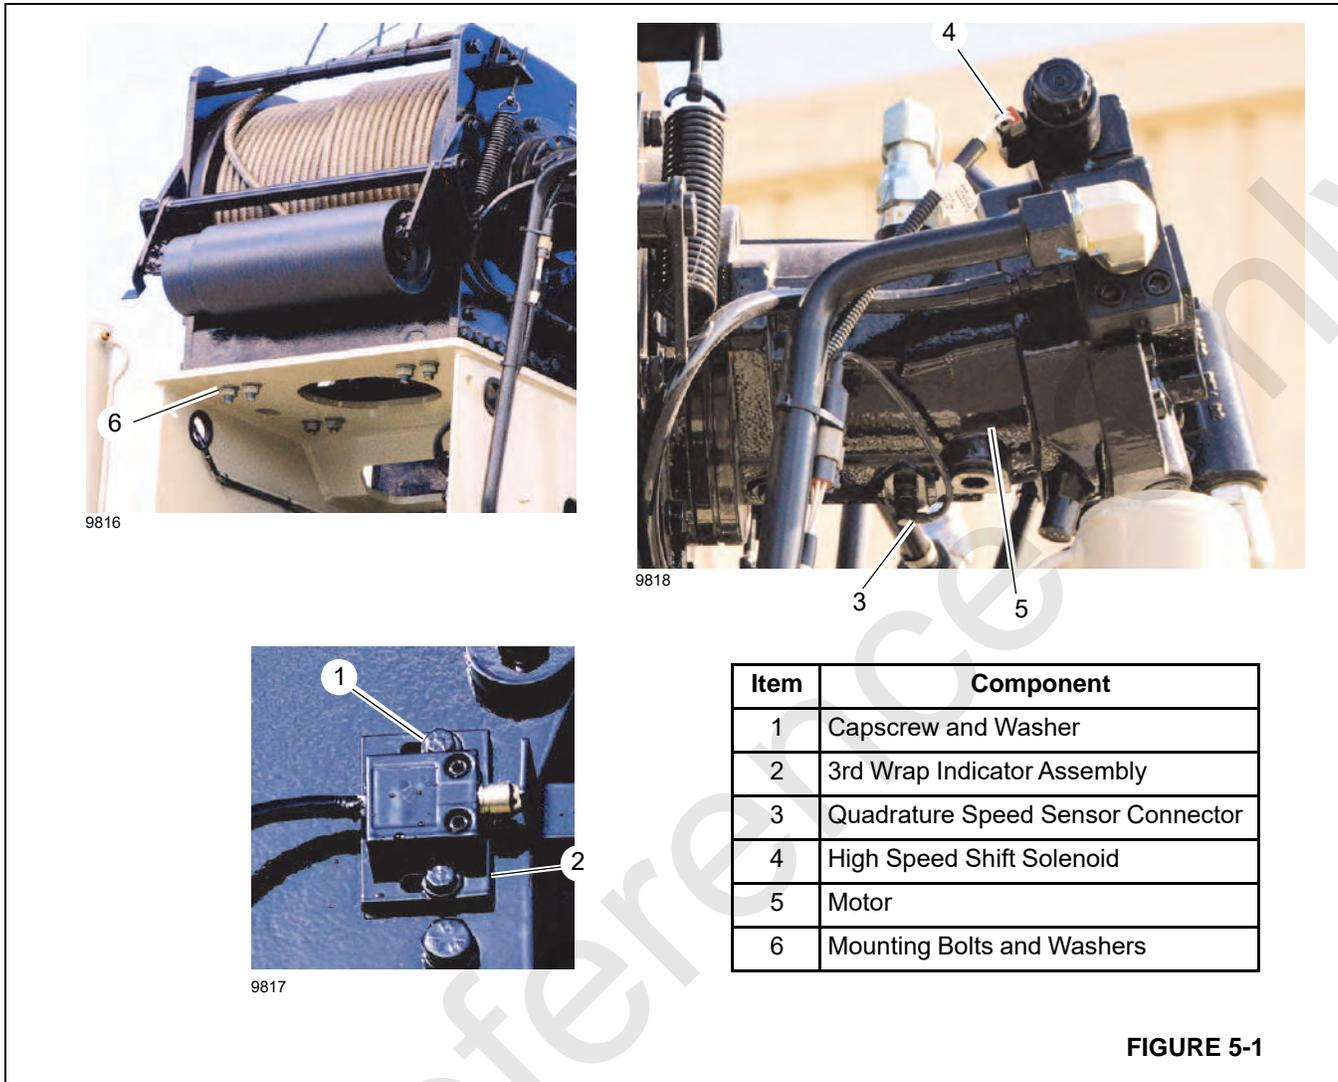

FIGURE 5-1
3. Remove two capscrews (1, Figure 5-1) and remove the 3rd Wrap Indicator assembly (2) from the hoist.
4. Disconnect the high speed shift solenoid (4) and quadrature speed sensor (3) connectors from the hoist.
7. Remove the mounting bolts and washers (6) from the hoist.